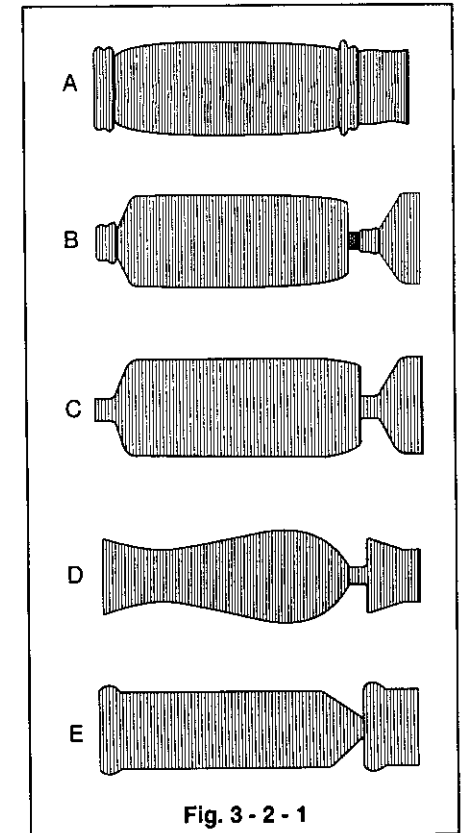

Fig. 3-2-1
- ① Play back the alignment tape. [PM6KH3 : 859C339O30]
- ② Preset tracking. (Refer to NOTE 1 in Para. 3.)
- ③ Check if the FM waveform is flat like A. (Refer to Fig. 3-2-1)
- ④ Adjust the height of the supply guide roller if the leading portion (the entry side of the drum) of the FM waveform is not flat, like B or C. (Refer to Fig. 3-2-1) Adjust the height of the takeup guide roller if the trailing portion (the exit side of the drum) is not flat, like D or E.